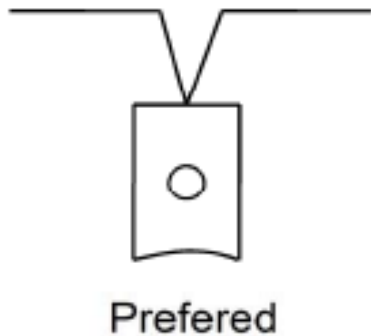

Figure 3a. Connection to Modules
3. Ensure that the “V” or Kelvin connections as per figure 3a. are observed.
1. It is recommended that the “V” or Kelvin connection be employed as shown at Figure 3a to minimise the over voltage applied on the protected equipment. Be sure not to run input and output wiring parallel.